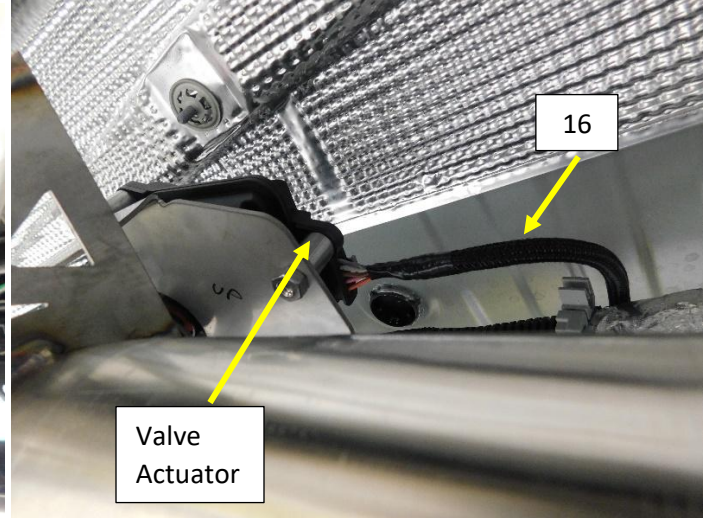

Figure.21
29. Run the harness along the top of the frame and up to the exhaust valve actuator. plug the harness into the valve actuator and lock the latch. **Fig.21**